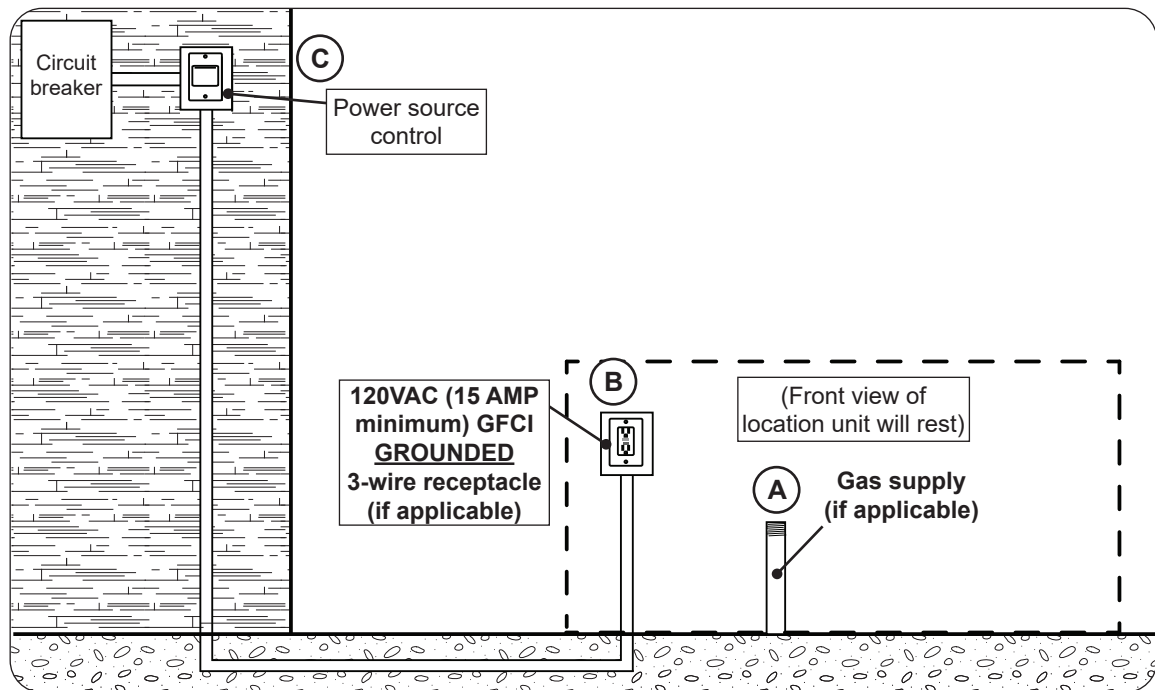

Fig. 25-1 Route gas and electrical (as applicable)
Your individual installation may vary. **Observe the National Fuel Gas Code (NFPA 54), the National Electric Code, and all local codes.** See Fig. 25-1 below for an example layout of electrical and gas supply.
1. Ensure the gas supply is properly routed into the area that the unit will rest over (see Fig. 25-1, A).
- A **120VAC (15 AMP minimum) GFCI GROUNDED 3-wire receptacle** (not included) is required within the vicinity of the unit to provide power to the unit. See Fig 25-1, B. The GFCI receptacle must be a WEATHER-PROOF IN-USE COVERED RECEPTACLE. The unit's power supply cord is located on the rear of the valve box.
1. Wire the dedicated power source control (Fig 25-1, C) to the receptacle that will be permanently installed in the location where the unit will be positioned (Fig 25-1, B) .